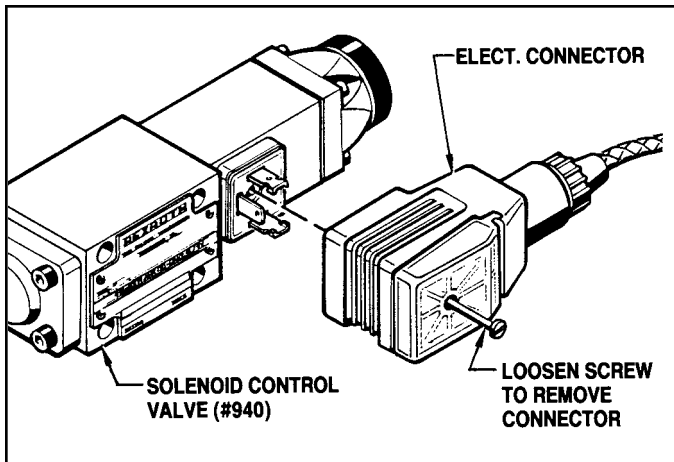

Figure 7.01 - Disconnecting The Electrical connector
- b. Disconnect the electrical connector from the solenoid control valve by unscrewing the captive screw in the electrical connector and unplug the connector from the solenoid valve. (See Figure 7.01)